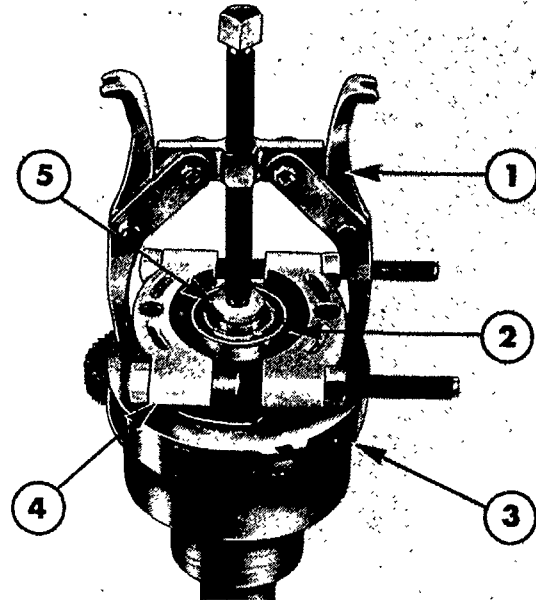

Figure 10
15. Remove the pilot bearing from the shaft using Tool Nos. 1002, 630S, and 951, as shown in Figure 10.